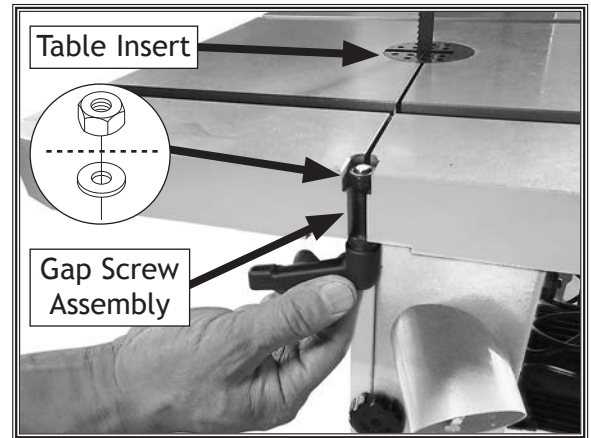

Figure 23. Table insert and gap screw installed.
6. Install table insert (see Figure 23).
7. Install table gap screw lock lever, secure with (1) M8-1.25 thin hex nut and (1) 8 x 20mm flat washer (see Figure 23), then tighten gap screw to ensure table surface is flush across gap.